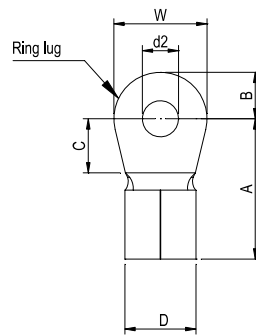

Figure 1
- ☑ It needs following additional terminal when wiring. The additional terminal dimension should comply with the following figure 1.